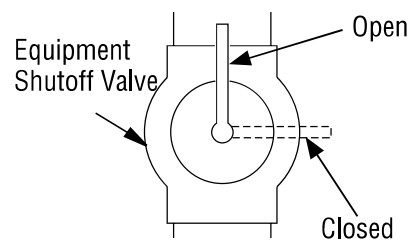
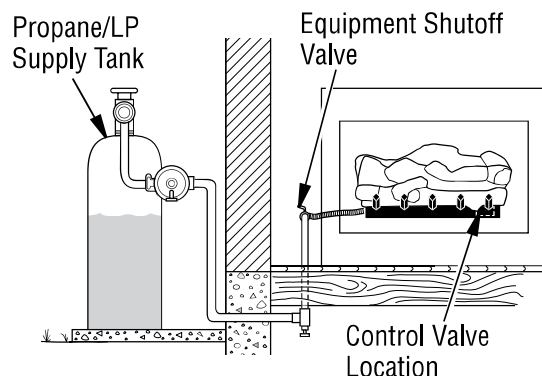
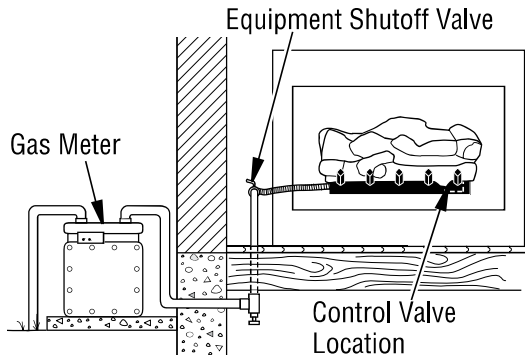

Figure 14 - Equipment Shutoff Valve
Figure 15 - Checking Gas Joints (Propane/LP Only)
Figure 16 - Checking Gas Joints (Natural Gas Only)
1. Close equipment shutoff valve (see *Figure 14*).
3. Check all joints from gas meter to equipment shutoff valve for natural gas or propane/LP supply to equipment shutoff valve for propane/LP (see *Figure 15* or *Figure 16, Page 16*). Apply noncorrosive leak detection fluid to all joints. Bubbles forming show a leak.
1. Open equipment shutoff valve (see **Figure 14, Page 15**).
4. Check all joints from gas meter to equipment shutoff valve for natural gas or propane/LP supply to equipment shutoff valve for propane/LP (see **Figure 14, Page 15** or **Figure 16**). Apply noncorrosive leak detection fluid to all joints. Bubbles forming show a leak.